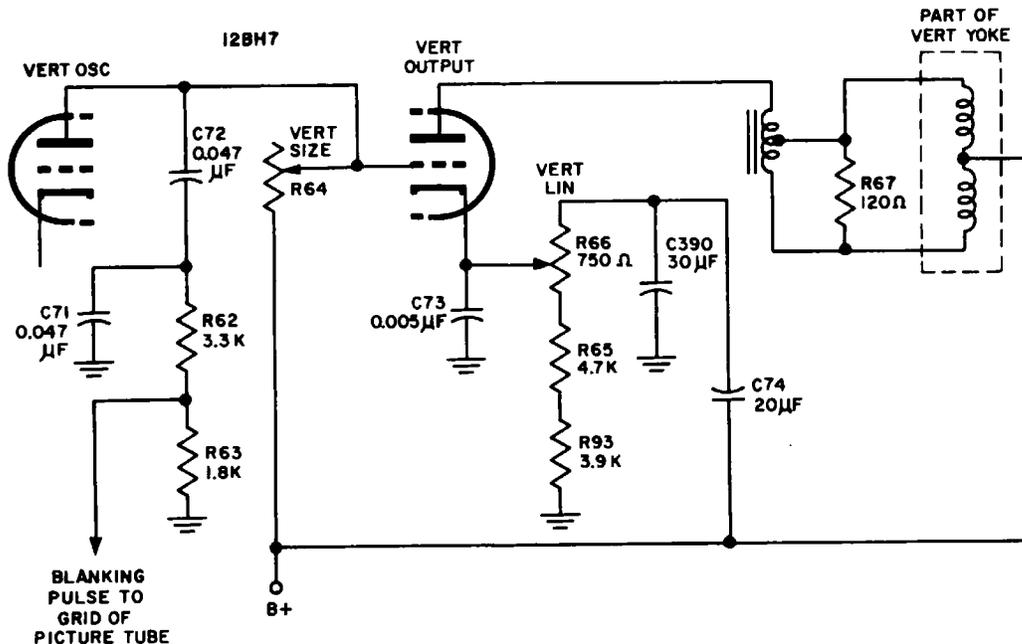

Fig. 6-3. Direct-coupled vertical-sweep section. After Motorola Inc.
QUES. 6-3. Vertical foldover is observed at the bottom of the picture. The vertical tube (a single twin triode tube is used for vertical oscillator and output, Fig. 6-3) is checked and found to be good. Because the coupling capacitor between the
vertical oscillator plate and the vertical output grid is a frequent offender, the circuit is checked for this capacitor, but the capacitor cannot be found (Fig. 6-3). What is the probable cause of trouble?
ANS. Vertical foldover in a circuit such as that illustrated in Fig. 6-3 can be caused by a shorted vertical size control, *R64*. Check, and replace if necessary.
**DISCUSSION.** In the direct-coupled circuit of Fig. 6-3, the grid of the output stage is prevented from going positive during normal operation by the vertical size control, which has a 1-megohm stop. However, if an internal short occurs in this control, a B+ voltage is applied to the grid, and foldover occurs.